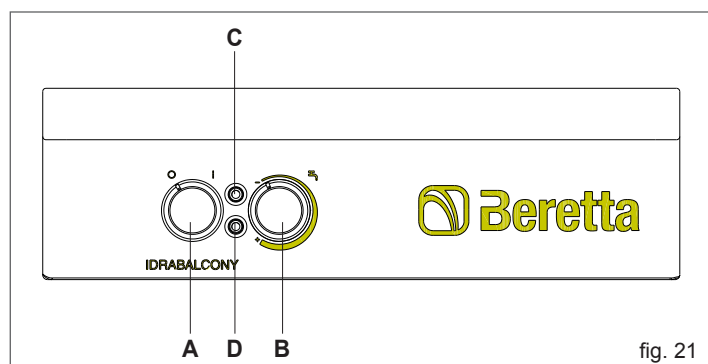

fig. 21
- When the appliance is powered the green LED (fig. 21 - C) flashes on for 1 second and remains off for 5 seconds; turn the dial (fig. 21 - A) to the "I" position: the green LED will flash with equal frequency. Turning on the hot water dispensing tap starts the circuit board ignition sequence once a flame has been detected; the green LED (fig. 21 - C) will switch from flashing to remaining on. When the tap is shut off, the appliance will switch to stand-by mode and the green LED (fig. 21 - C) will flash to show that the appliance is ready for further withdrawals.
- Should the burner not ignite within 10 seconds, the red LED (fig. 21 - D) will illuminate. To resume operation, turn the dial (fig. 21 - A) manually to the "O" position and then the "I" position.
⚠ If the appliance does not begin operating again within 10 seconds, the red LED (fig. 21 - D) will light up.
Turn the dial (fig. 21 - B) to select the hot water temperature requested.
Should the device be activated, the appliance will not work. The red warning light (fig. 21 - D) will flash at intervals of 0.5 seconds.
To resume operation, turn the dial (fig. 21 - A) manually to the "O" position and then the "I" position.